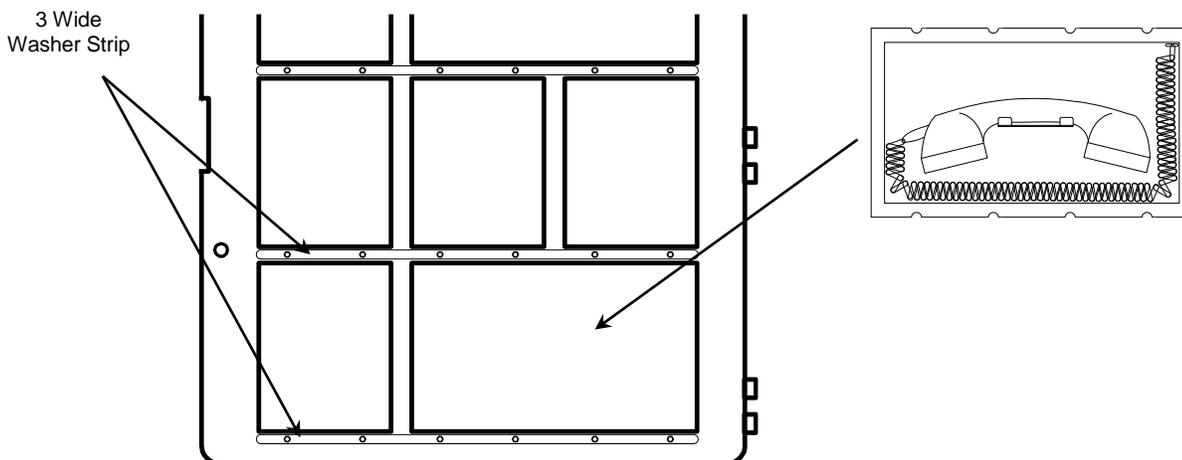

Figure 55– NX-TEL2-MCCS (/P) Firefighter Phone System2 Phone Enclosure Installation
The SHIELD command center NX-CC01-BB-ID2 (3x3 command center) or NX-CC02-BB-ID2 (3x5 command center) inner doors can also support either an NX-TEL2-MCCS or NX-TEL-MCCS/P firefighter phone system2 command center firefighter phone and enclosure mounted in the bottom left side double aperture (see figure 55).
To install the NX-TEL2-MCCS (/P) firefighter phone system2 command center phone enclosure, remove the nuts and washers holding the two (2) lower washer strips (3-wide washer strip) in place. Remove the washer strips and install the NX-TEL2-MCCS (/P) firefighter phone system2 command center firefighter phone enclosure in the double aperture opening, replace removed washer strips and secure with the removed nuts and washers (see figure 55).